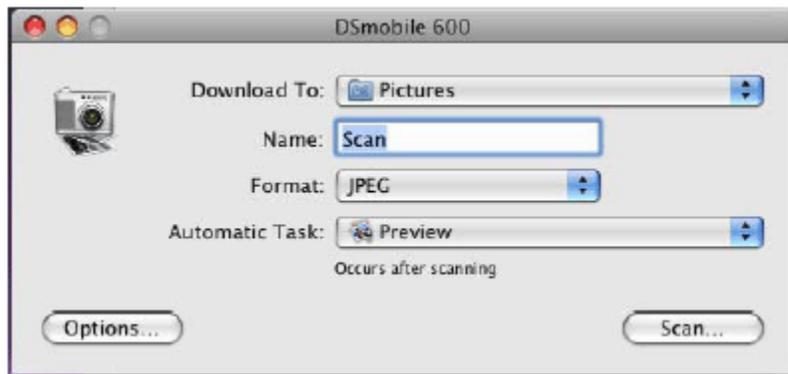

Figure 4. TWAIN Interface Window
8. Click the "Scan" button (See Figure 4).